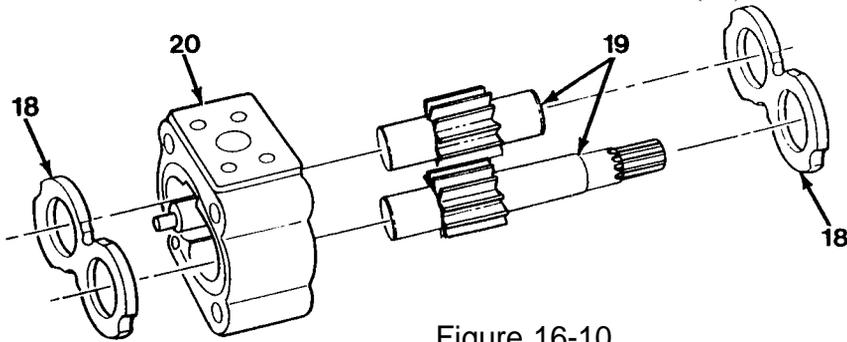

Figure 16-10
7. Install thrust plate (18) as matchmarked in gear housing (20, Figure 16-10). Thrust plate (18) is installed flush with gear housing (20).
10. Install two shafts (19) in gear housing (20, Figure 16-10).
11. Install remaining thrust plate (18) as matchmarked in gear housing (20). Thrust plate (18) is installed flush with gear housing (20).